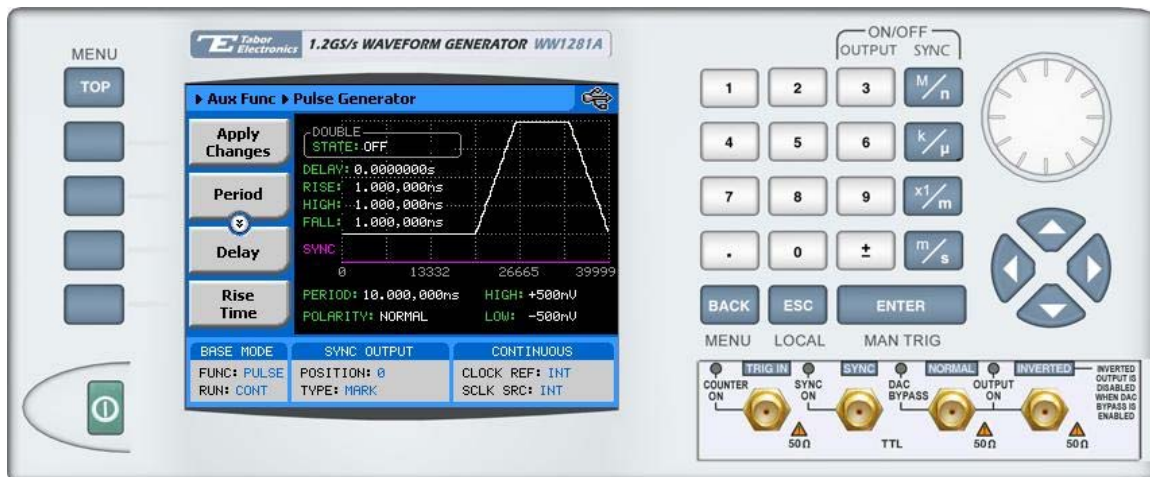

Figure 3-33, the Digital Pulse Generator Menus
4. Press the Enter button to select the digital pulse generator function Figure 3-33 shows the Digital Pulse Generator panel and menus.